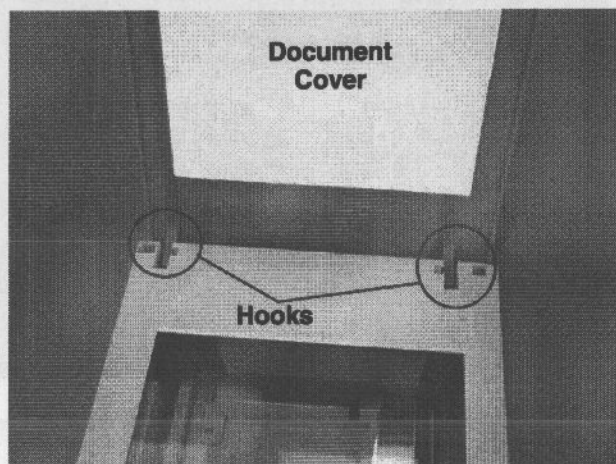

Figure 4-3. Document Cover Removal
1. Open the document cover vertically and pull it out upward. (See Figure 4-3.)